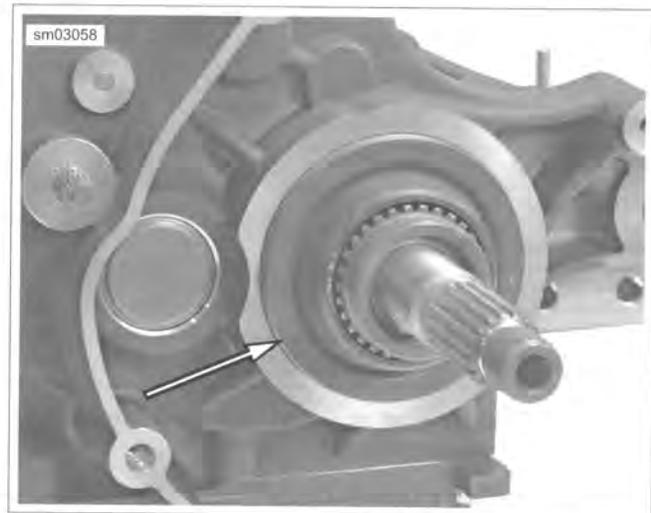

Figure 6-52. Place Main Drive Gear Seal Over Pilot
3. See Figure 6-52. Place seal over pilot with garter spring facing bearing, and position seal squarely in end of crankcase bore.